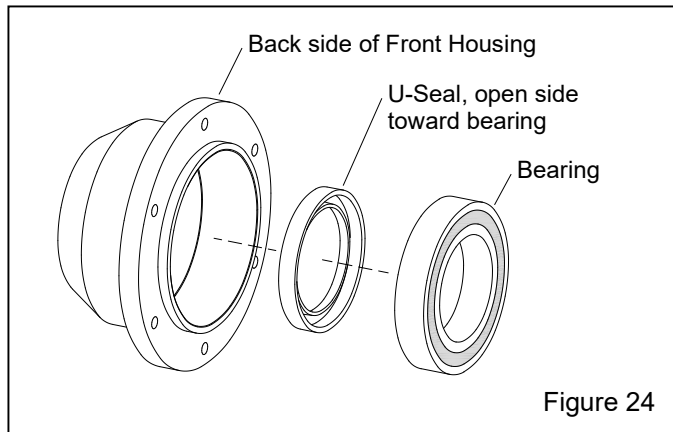

Figure 24
**8.4.6** Refer to Figure 24 and remove the bearing from the front housing; the bearing fits snugly in the housing, if required, use a puller to remove the bearing. Note: if the